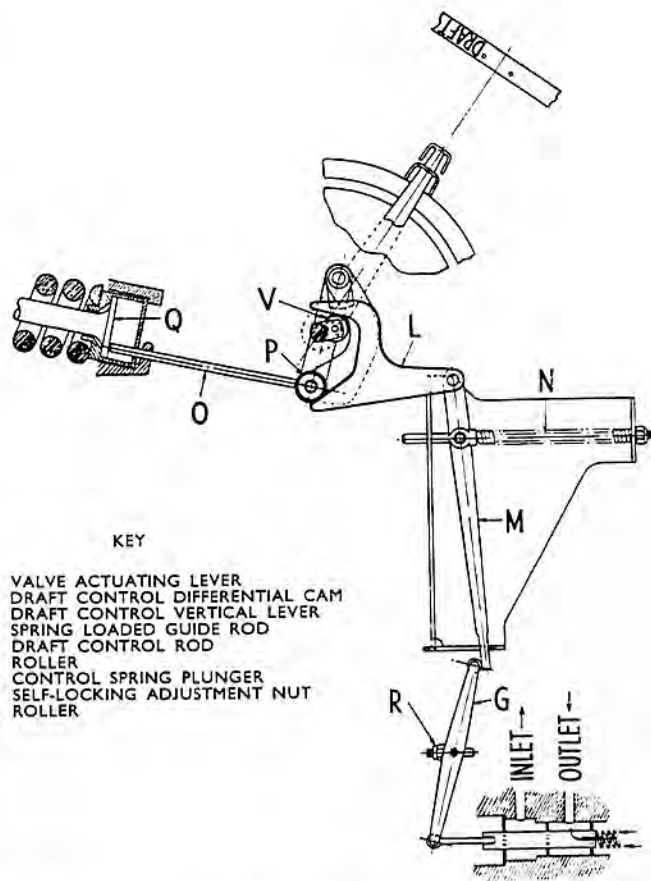

FIG. 18 DRAFT CONTROL
The chief components of this second system are arranged side by side with those of System A and comprise, as shown in Fig. 18, a draft control differential cam (L) secured to a vertical lever (M) free to pivot about guide rod (N) and able at its bottom end to come into contact with the valve lever (G). The rear end of cam (L) is jaw shaped and rests on a small roller (V) secured to the shaft of the draft control lever. A second roller (P) on the forward end of the draft control rod (O) is in contact with the lower inner surface of the jaws. A supporting linkage prevents vertical movement of roller (P) by the force of the spring-loaded control valve acting through the levers (G) and (M).